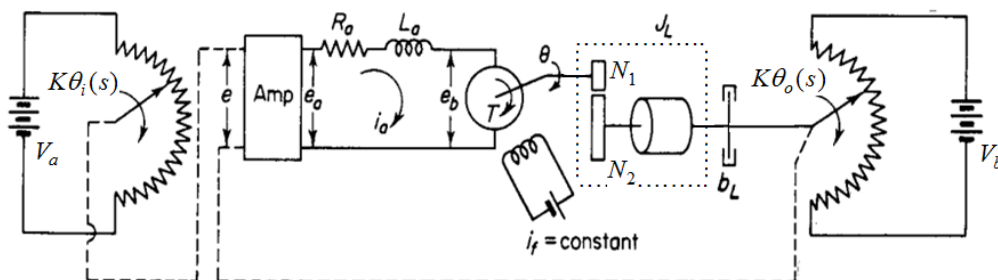

Figure 1: Schematic diagram of a positional servo motor
- (a) Give **two** (2) advantages of a closed loop system (2 marks)
- (c) The schematic diagram for the positional servo system is shown in **Figure 1**. Assume that the input and output of the system are the input shaft position and the output shaft position respectively. Assume the following for the system constants: